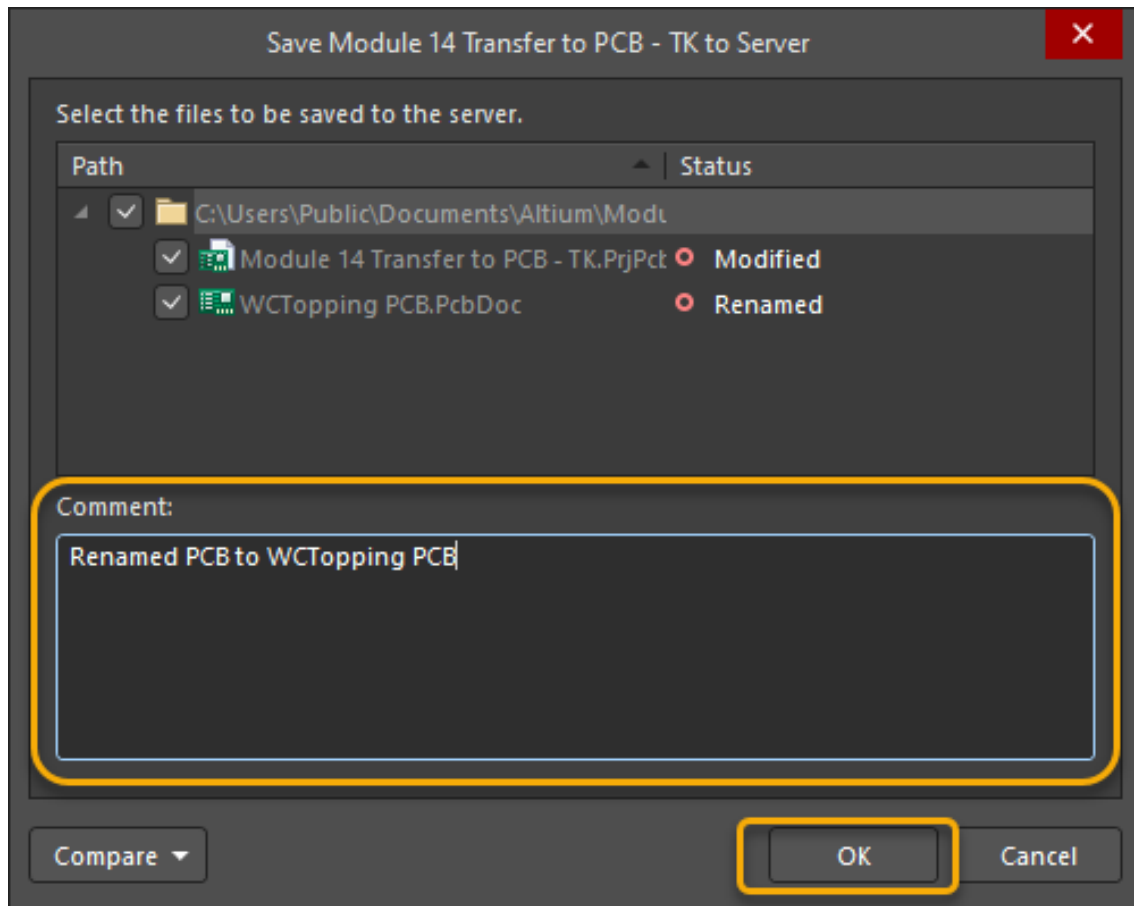

Figure 2. Save to Server
- b) At the pop-up *Save* dialog add a comment, for example, Renamed PCB to WCTopping PCB.PcbDoc, as seen in Figure 2.
- b) At the pop-up save dialog as seen in Figure 2.